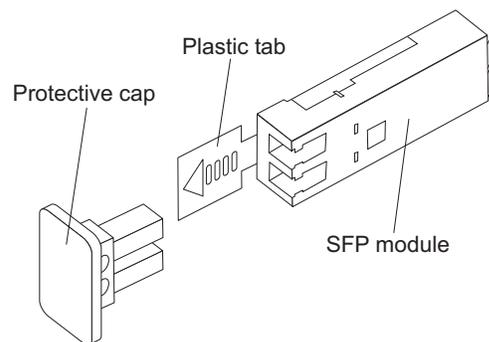

Figure 23. SFP module and protective cap
2. Remove the protective cap from the SFP module, as shown in Figure 23. Save the protective cap for future use.
2. If necessary, remove the protective cap from the SFP module, as shown in Figure 23 on page 46. Save the protective cap for future use.